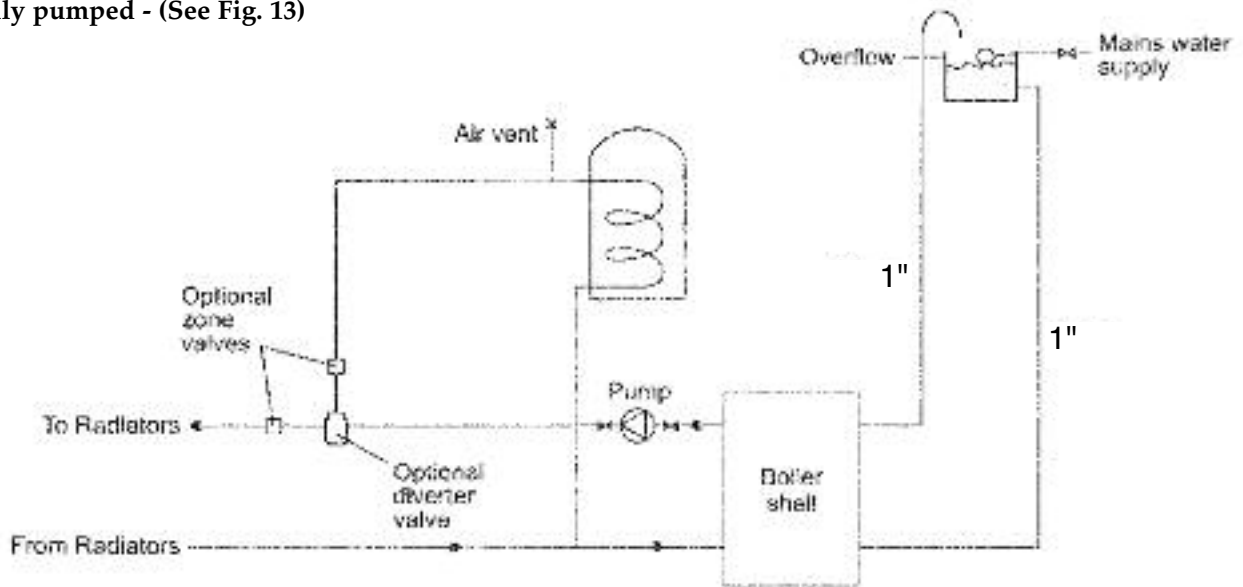

Fig. 13 - Fully pumped system
3.12.2 Fully pumped - (See Fig. 13)